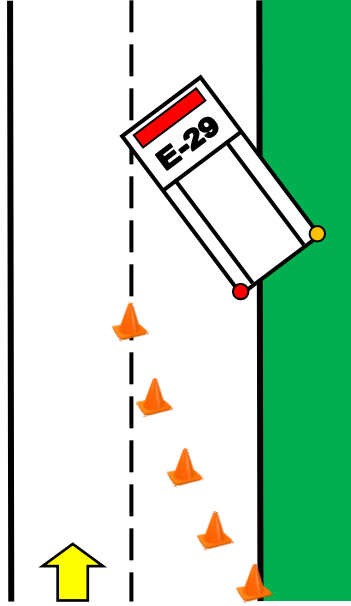

Figure 6.4
- 2) A Block to the Right as illustrated in Figure 6.4, places the Officer's side closest to the incident. Personnel should exit on the protected side. This is the preferred method when possible, because it offers a view of the incident should the driver need to operate the pump and the driver is routinely exposed for a greater period of time.